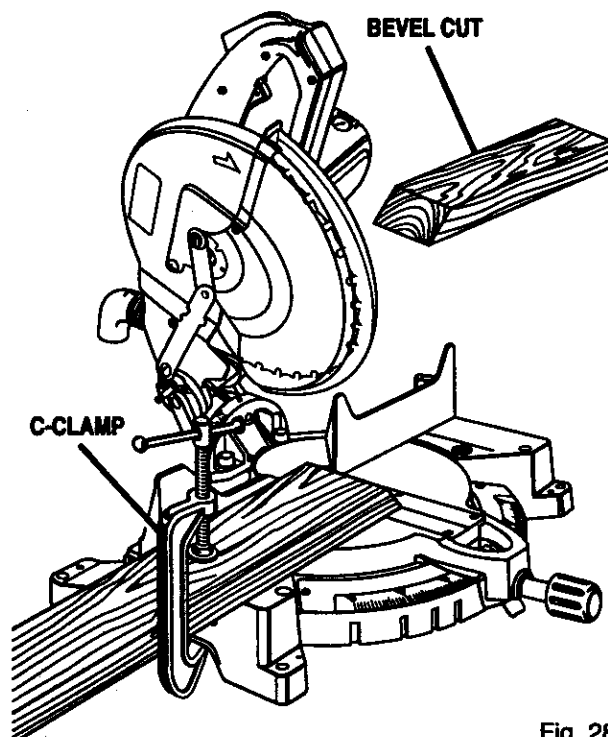

Fig. 28
- Grasp the stock firmly with one hand and secure it against the fence. Use the optional work clamp or a C-clamp to secure the workpiece when possible. See Figure 28.
- Slowly lower the blade into and through the workpiece. See Figure 28.